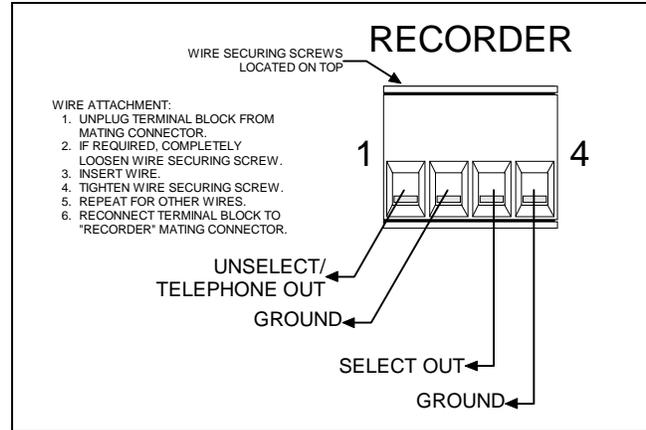

Figure 7 – Recorder Outputs At Enhanced Audio Enclosure
- Interconnect the outputs to call-check recorders as required. These outputs *are not* isolated from ground through isolation transformers and the two ground terminals are common. See Figure 7 and Table 27 for terminal identification. See the specifications in LBI-39100 for audio signal output level specifications. If required, audio output levels may be adjusted via a C3 Maestro note card.